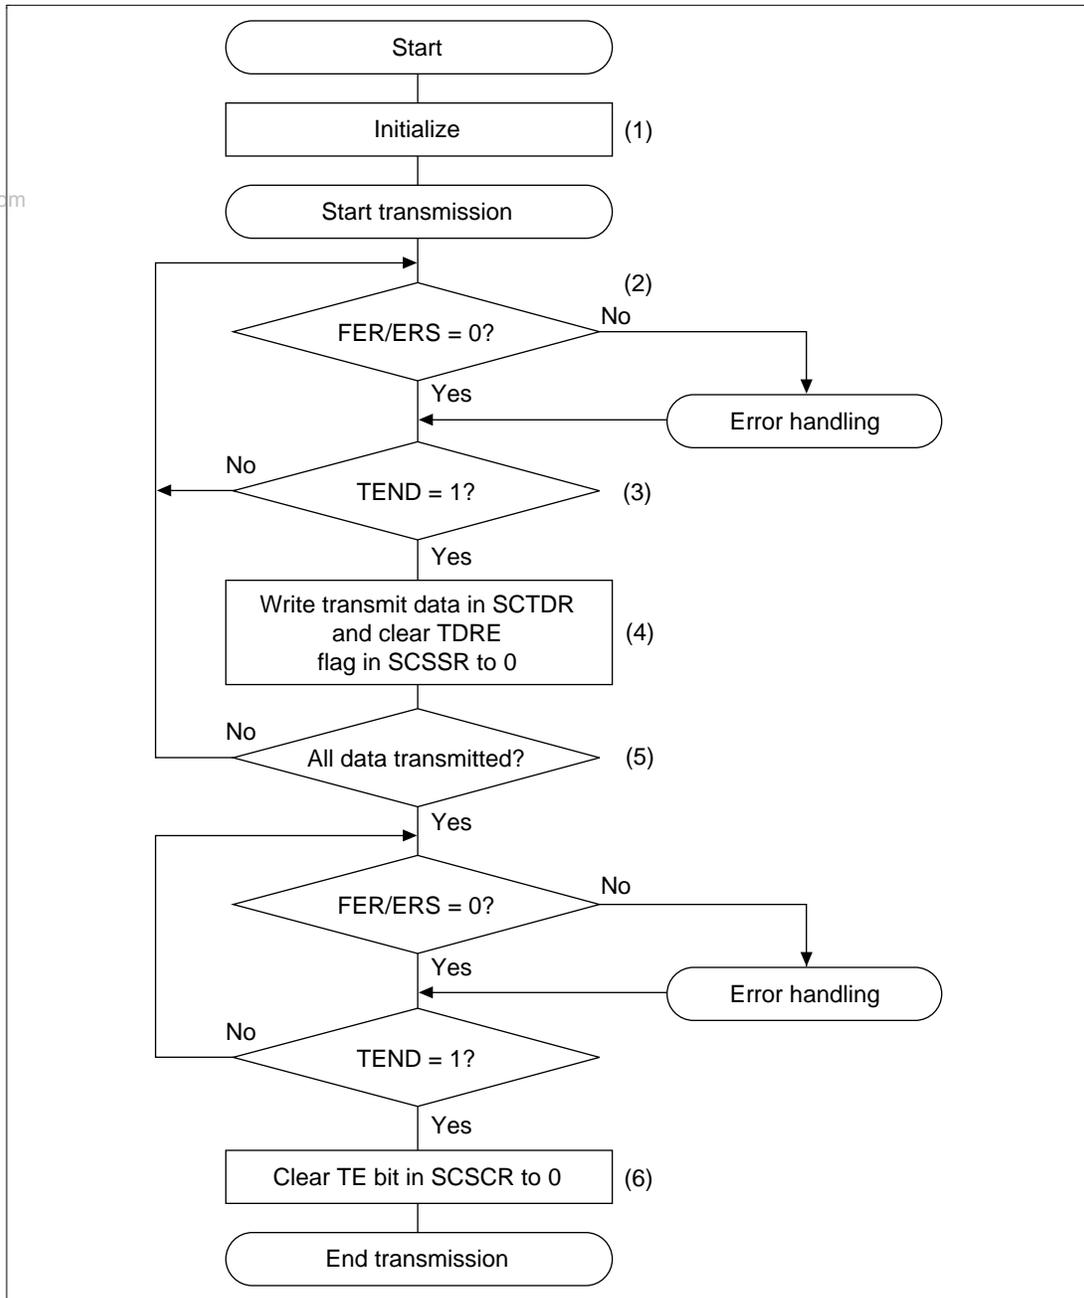

Figure 14.6 Transmission Flowchart
**Serial Data Transmission:** The handling procedures in the smart card mode differ from ordinary SCI processing because data is retransmitted when an error signal is sampled during a data transmission. This results in the transmission processing flowchart shown in figure 14.6.